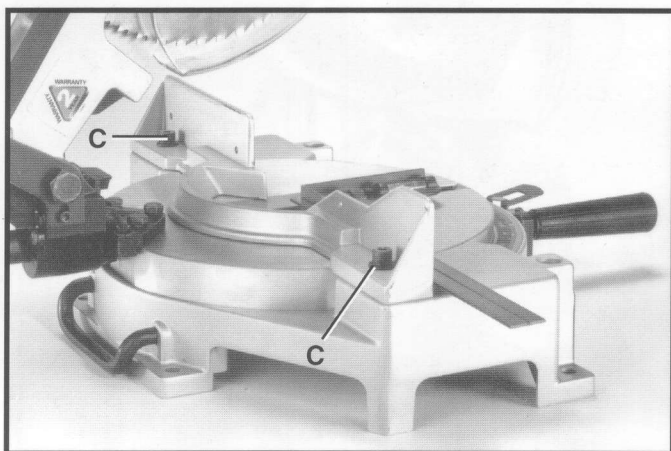

Fig. 23
4. If an adjustment is necessary, loosen the two screws (C) Fig. 23, and adjust fence 90 degrees to the table opening. Then tighten the two screws (C).